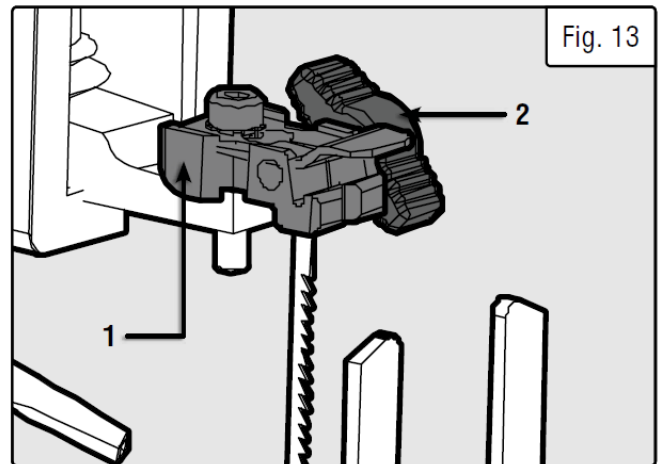

Fig. 13
3. Remove the blade from the blade holders (Fig. 13 – 1).
- For a pinless blade, ensure that there is slack in the blade and it is not tensioned. Loosen the thumbscrews (Fig. 13 – 2) in the top and bottom blade holders and remove the blade from the holders.
4. Install the blade on the blade holders (Fig. 13 – 1).
| <ul style="list-style-type: none"> • Hook the blade pins in the recess of the lower blade holder. • While pushing down on the upper blade holder (Fig. 13 – 1), insert the blade pins into the recess of the upper blade holder. | <ul style="list-style-type: none"> • Ensure the thumbscrew (Fig. 13 – 2) on the lower blade holder is loose and insert the blade into the opening of the lower blade holder. • Secure the blade in the lower blade holder by tightening the thumb screw. <p>TIP: Thread the workpiece through the pilot hole of the workpiece if making an interior cut.</p> |
| | <ul style="list-style-type: none"> • Ensure the thumbscrew (Fig. 13 – 2) on the upper blade holder (Fig. 13 – 1) is loose and insert the blade into the opening of the upper blade holder. • Secure the blade in the upper blade holder (Fig. 13 – 1) by tightening the thumb screw. |